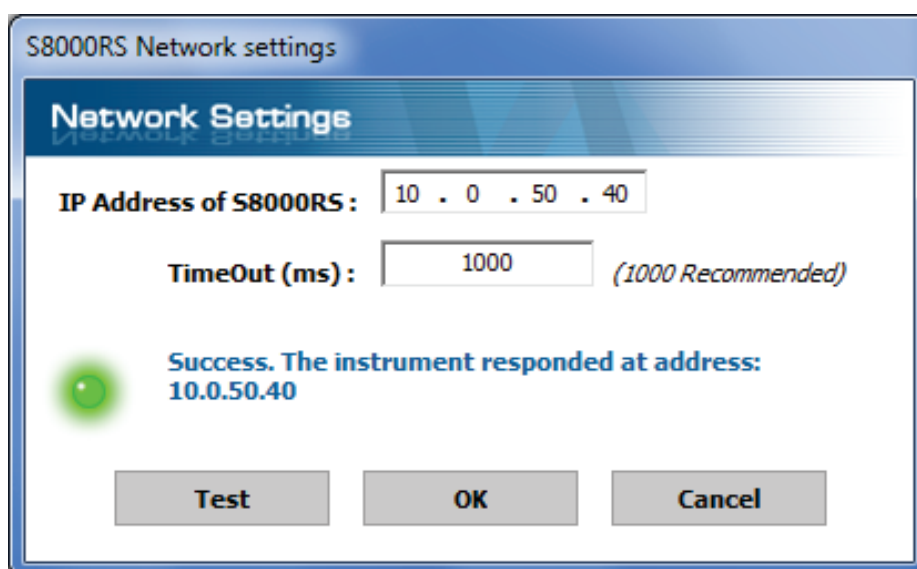

Figure 30 Network Settings Screen
2. Windows will recognize the instrument and automatically install the relevant drivers. If the driver installation has been successful, then the Windows Device Manager will list the following driver (see *Figure 30*):
Manual – Choose the appropriate COM port from the drop down list, as shown in the Windows Device Manager (see *Figure 30*).